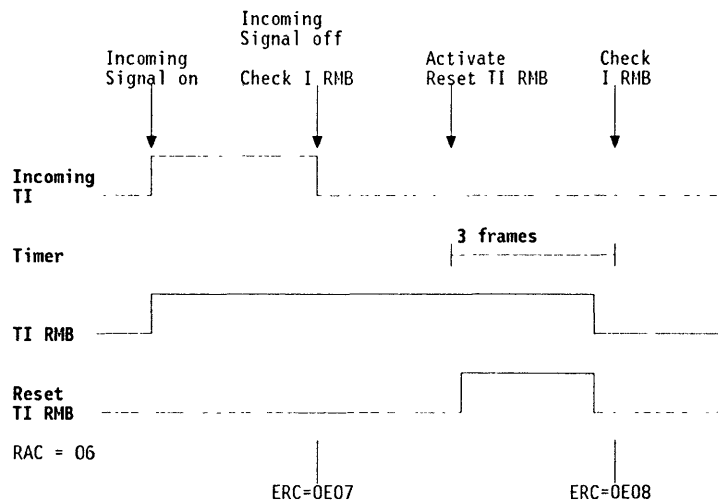

Figure 5-5. Timing Diagram C
1. Process the handling of TI by the FESA when TI becomes active. See Figure 5-5 for the respective ERC test sequence points.